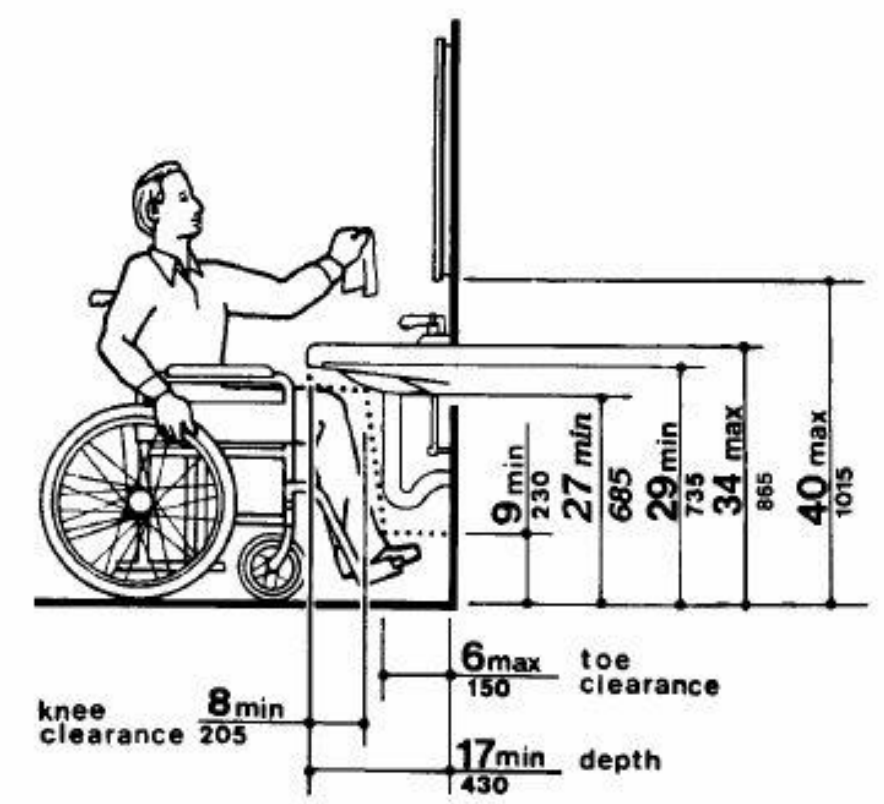

Fig. 31 Lavatory Clearances
4.19.2 Height and Clearances. Lavatories shall be mounted with the rim or counter surface no higher than 34 in (865 mm) above the finish floor. Provide a clearance of at least 29 in (735 mm) above the finish floor to the bottom of the apron. Knee and toe clearance shall comply with Fig. 31.